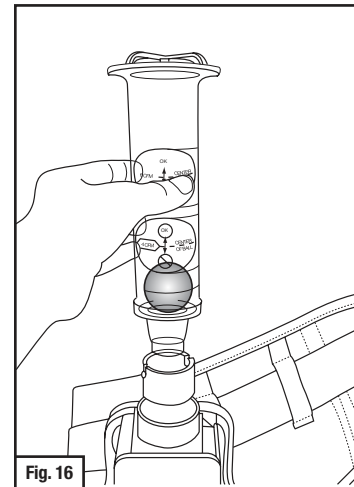
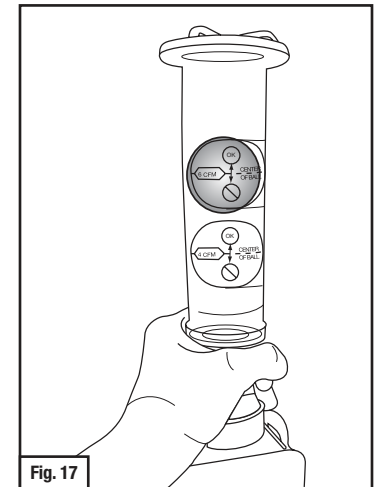

Fig. 16
Fig. 17
c. V-199: Insert into the end of the adapter (Fig. 16) and hold vertically using the thumb and forefinger to cover the two breathing tube locking slots in the connector (Fig. 17).
8. Loose fitting headgear: The ball should be located in or above the higher (6 cfm) helmet and hood flow test circle (Fig. 17).